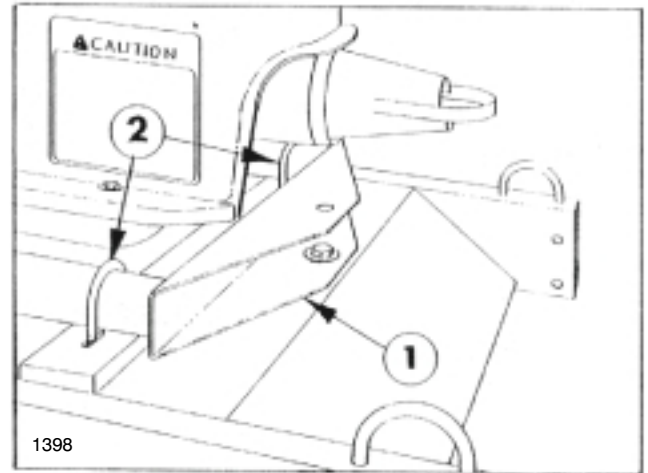

FIG. 2
6. Loosen the fasteners on the Frame's mounting straps and align the hole in the Spreader's rear mounting plate with the hole in the Mounting Frame as shown in FIG. 2. Insert a 5/8" x 2" bolt with washer through the holes to maintain the alignment of the Spreader in-put shaft and End Yoke.
9. Install hex nut and washer to 5/8" x 2" bolt at rear mounting plate. See FIG. 2.
10. Insert two "U"-bolts over the tubular frame of the Spreader and secure with four 3/8" flat washers and lock nuts (FIG. 2).